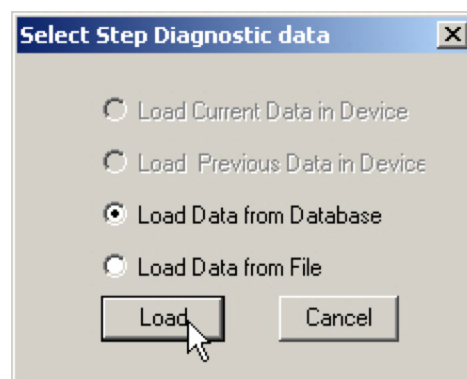

Figure 146 - Selecting Load Data from Database
2. Click **Load** (*Figure 146*).